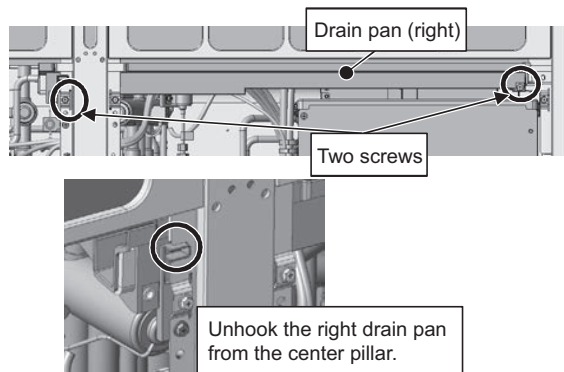

Figure 5
- (6) Remove the cover from the main control box by unscrewing the three screws. (See Figure 5.)
- (8) Place the excess weak and strong electrical wirings in the space at the base legs as shown in Figure 5 to keep them from being caught during maintenance work.
- (4) Remove the right drain pan by unscrewing the two screws. (See Figure 5.)